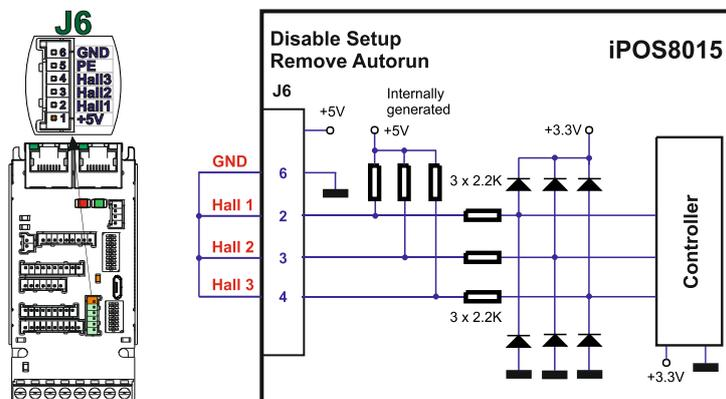

Figure 36. Temporary connection during power-on to remove the drive from Autorun mode or disable Setup
- Temporarily connect all digital Hall inputs to GND during power-on (for about 1 second, until the green LED turns on), as shown in **Figure 36**.